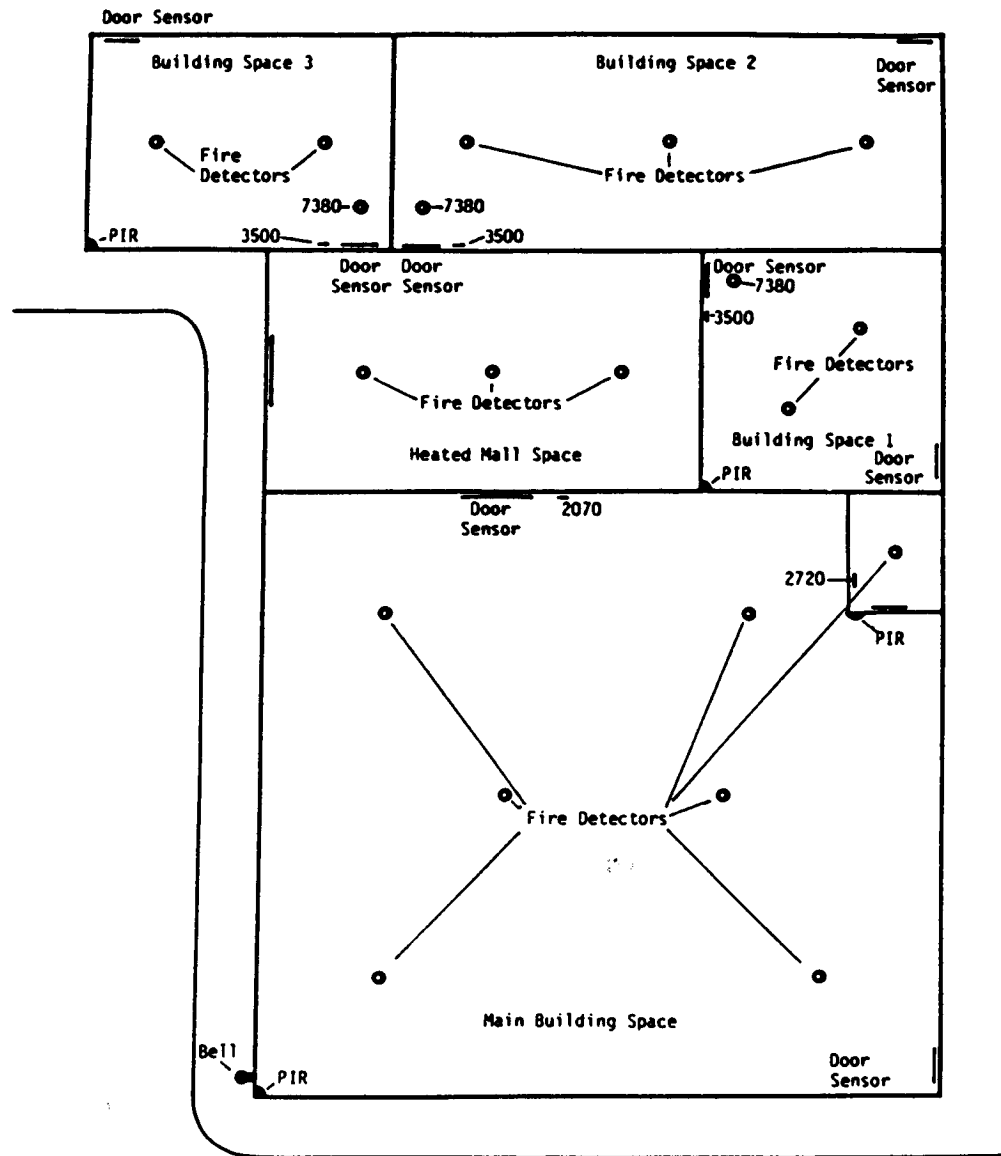

FIGURE 16
This method uses one or more Model 3500 Control Panels to provide security to one or more individual building spaces while using the Model 2720 as the single communicator for all building spaces. See Figure 16.
Figure 16 is the shopping mall application that the (3) 3500 units are used in as an example. Also in this application, a Model 2070 keystation is used to control security for the main building space and the entire fire system for the shopping mall.